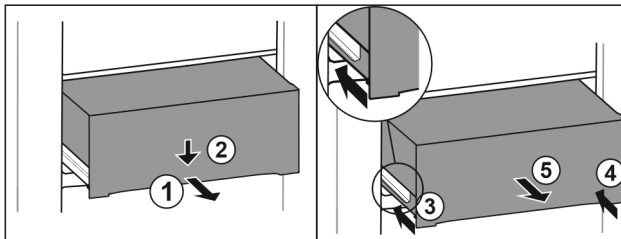

Fig. 196
- ▶ Pull out drawer half-way. Fig. 196 (1)
- ▶ Push the drawer down at the front. Fig. 196 (2)
- ▶ Push the left rail in by about 2 cm. Fig. 196 (3)
- ▶ Push the right rail in by about 2 cm. Fig. 196 (4)
- ▶ Remove drawer to the front. Fig. 196 (5)